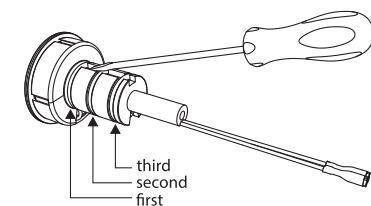

Fig. 7
- 7- Tweeter: with a small slotted screwdriver remove the three rubber rings (o-rings) starting from the closest to the tweeter to the farthest. The screwdriver must be inserted on dedicated slot located opposite the tweeter cables (Fig 7).